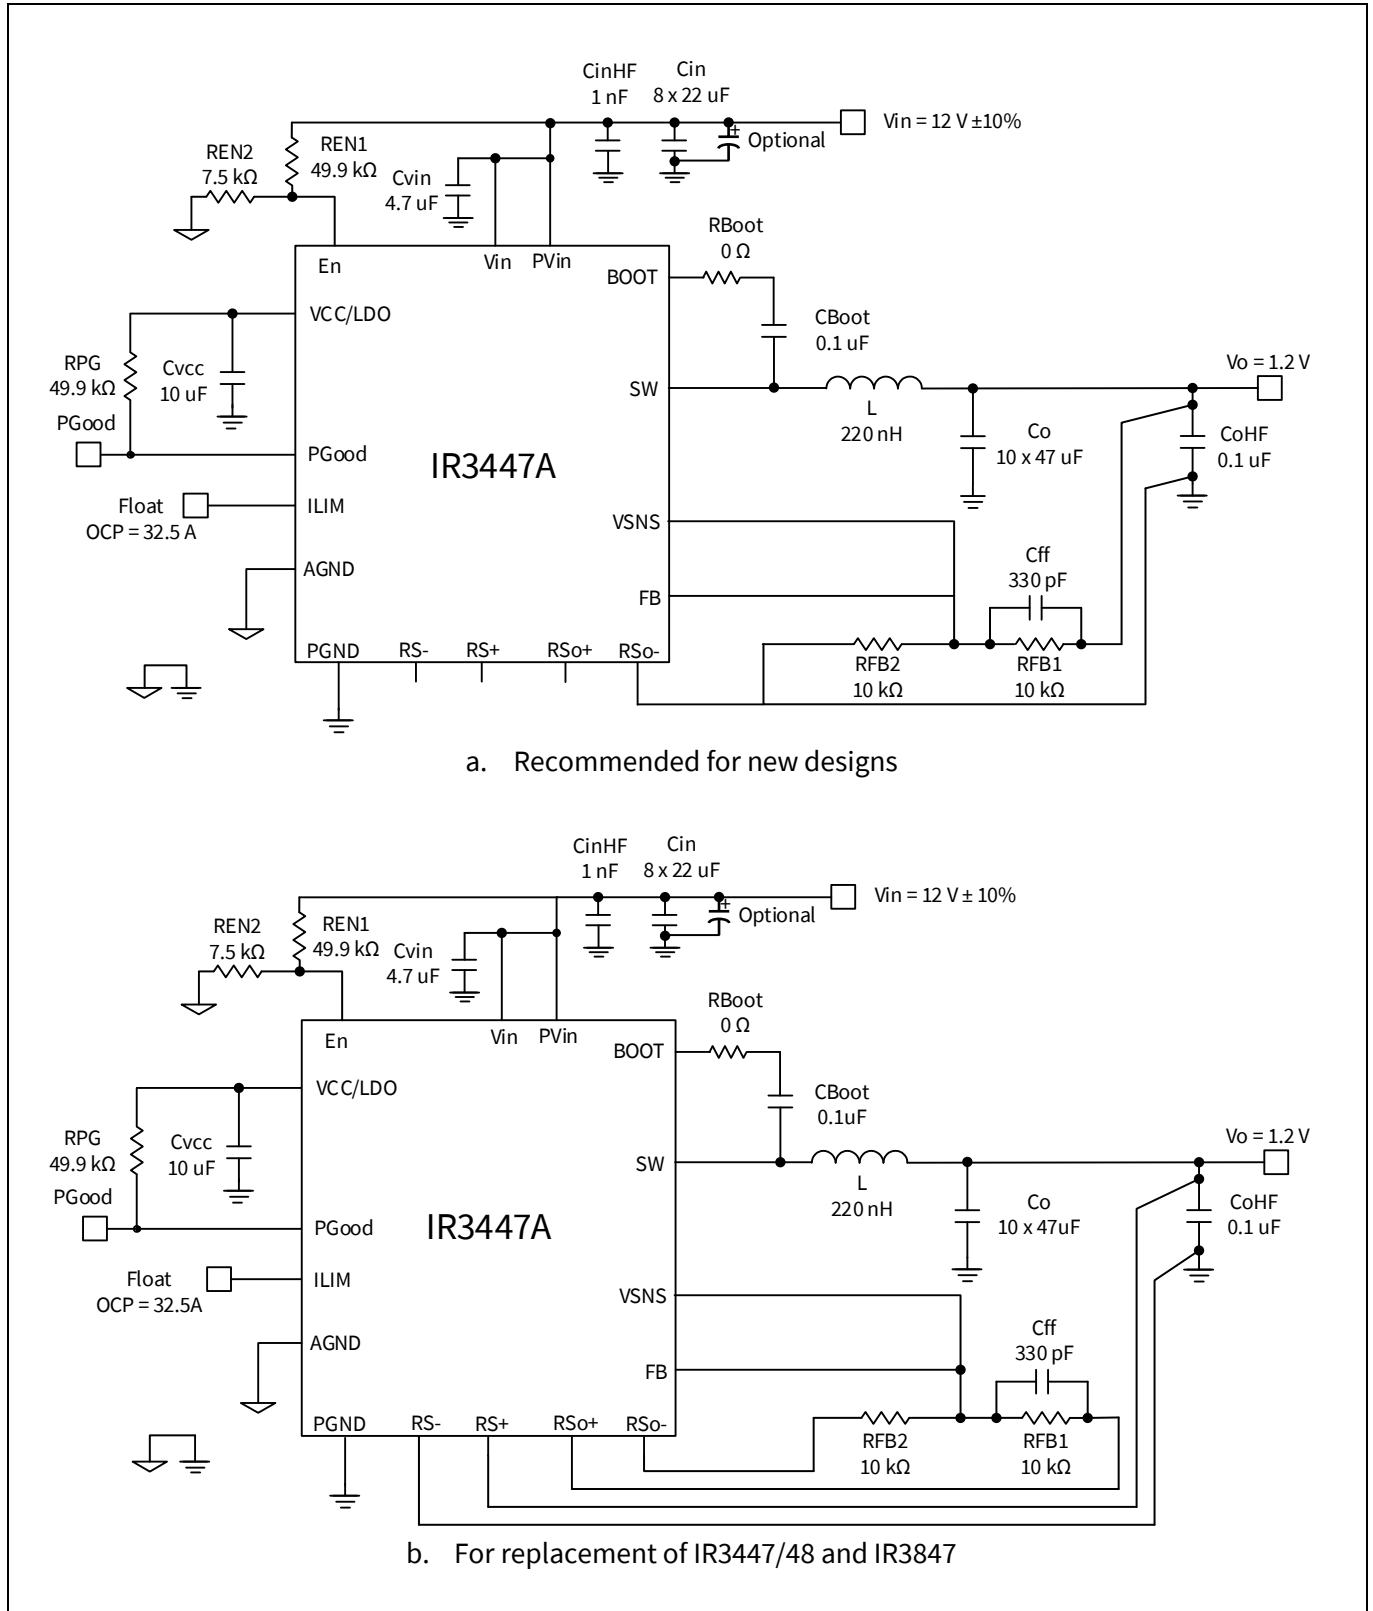

Figure 13 Application diagram of IR3447A. $PV_{in} = 12\text{ V}$, $V_o = 1.2\text{ V}$, $I_o = 25\text{ A}$, $f_{sw} = 600\text{ kHz}$.
In this section, an example is used to demonstrate how to design a buck regulator with the IR3447A. The application circuit is shown in **Figure 13**. The design specifications are given below:
- If it is required to sense the output voltage at a remote location, pseudo remote sensing can be implemented as follows, as illustrated in Figure 13.